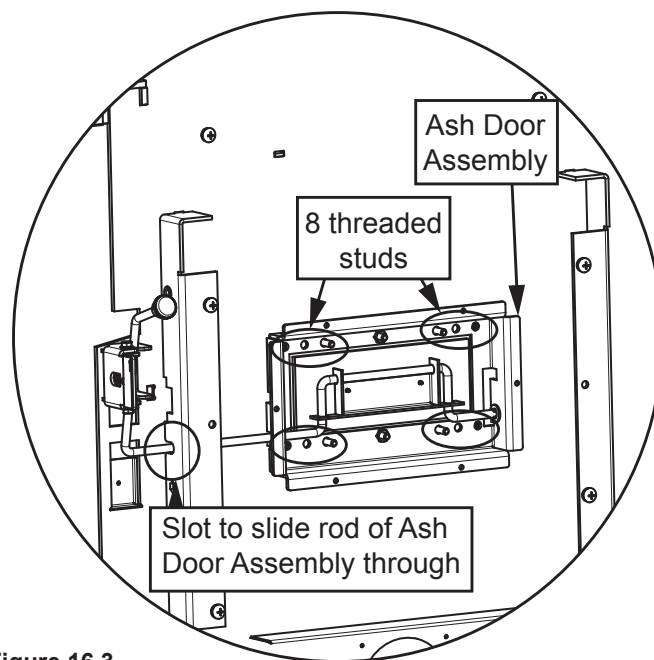

Figure 16.3
5. Remove 8 nuts that hold the cover plate on using a 7/16 socket wrench; discard cover plate (**Figure 16.3**).
7. Install ash door assembly by sliding the rod at an angle into the slot on the left side (**Figure 16.3**).
8. Slide the ash door over the 8 screws protruding from the bottom of the appliance. Secure with nuts and washers using 7/16 socket wrench (**Figure 16.3**).